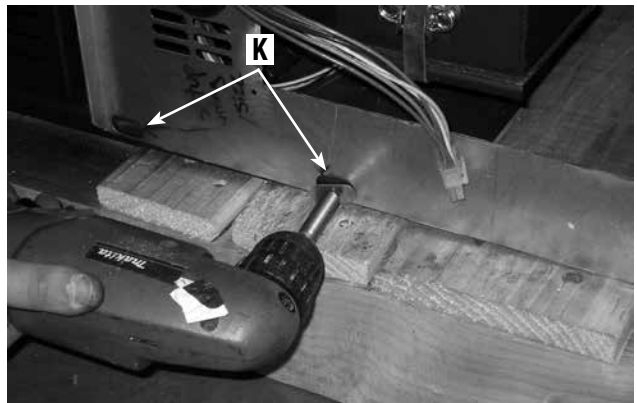

Figure 63
10. Final step: Install the 4 door washers (K), using 4 of the sheet metal screws provided, insert two on each lower side of your ZC box (shown in the **Figure 63**). You are now ready to install your PI40 pellet insert. **Follow all vent clearances stated in your Installation and Operation Manual and the vent manufacturers instructions.**